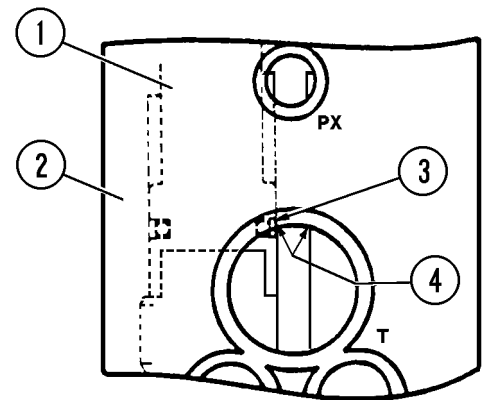

FIGURE 3-7. GLYDE RING INSTALLATION
4. Install the "B1" actuation plunger (3) into the "B1" circuit. Be careful not to damage or cut the Glyde ring during installation. Observe the Glyde ring assembly through the tank port as the plunger is being installed. (Refer to Figure 3-7) It may be necessary to work the Glyde rings past the sharp edge in the body to prevent damage to the seal. Make sure the actuation plunger is completely seated and bottomed.